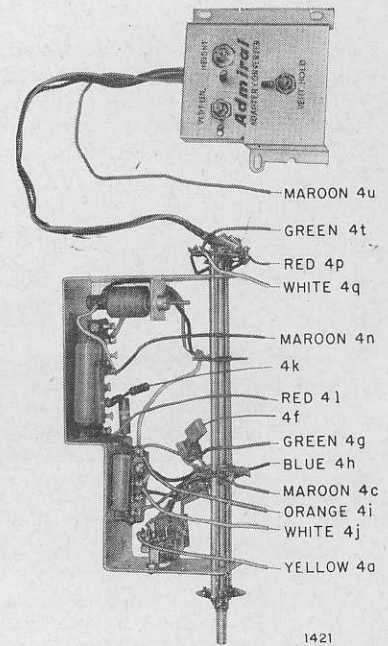

Figure 4. Adapter-Converter Sub-chassis and Color Control Panel, Showing Location of Wiring to be Connected in Step 4.
Step 4. Make the following (wiring) connections. Refer to figures 4, 5 and 6. Note that call-outs "4a, 4b, 4c, etc." in figures 4, 5 and 6, indicate connection points. Tube loca-